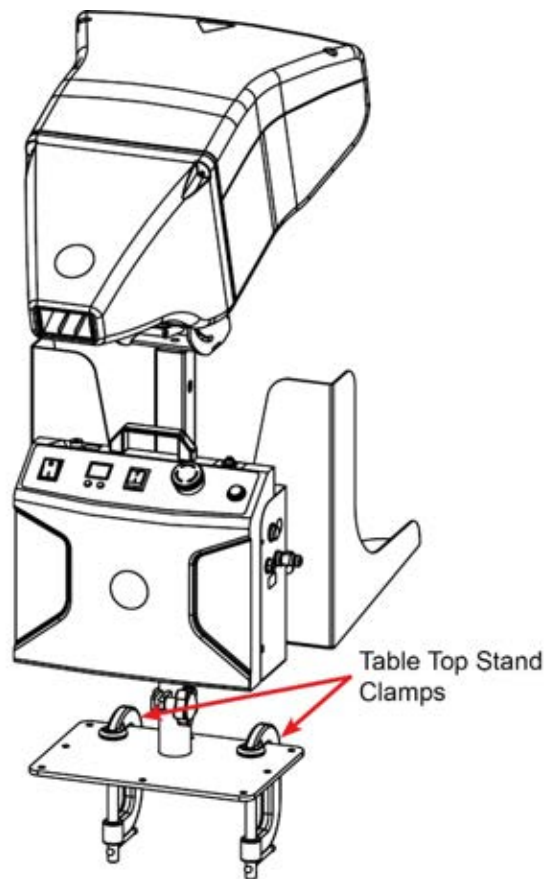

Figure 14 Table-Top Stand
2. Table-Top Stand (refer to Figure 14).
1. Make sure that the two Table-Top Stand Clamps are tight and positioned correctly to the table (refer to Figure 14).